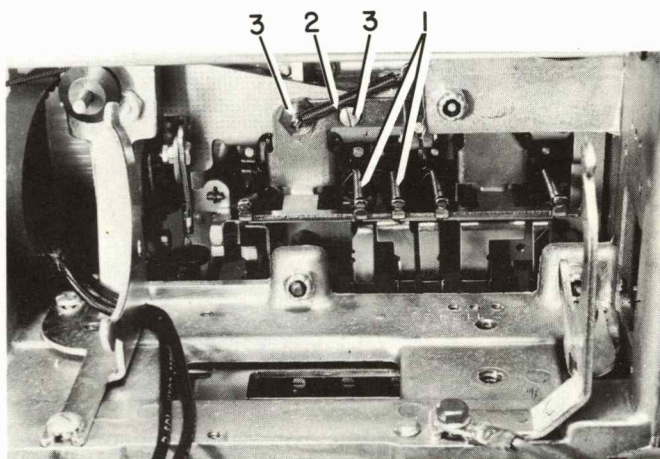

FIGURE 22. Rotate Selection Differential Removal
7. Remove the rotate-latch springs (#1, Figure 22).
8. Remove the check-latch spring (#2, Figure 22).
9. Remove the guide-bracket mounting stud and screw (#3, Figure 22).